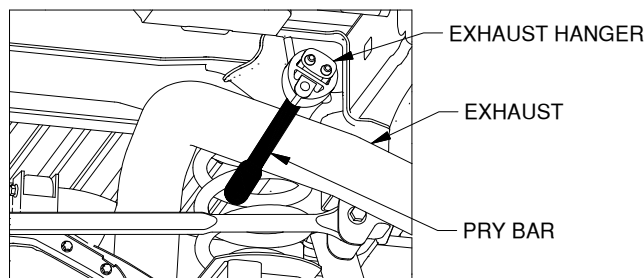

Figure A5: View looking under truck bed towards cab.
7. **Disconnect the exhaust hanger.** Locate the exhaust hanger in the rear passenger portion of the truck. Disconnect the exhaust from the hanger to provide improved mounting access to the center section. It is recommended that a pry bar be used to aid in disconnecting the exhaust hanger, as shown in Figure A5. Using soap and water to lubricate the pin and the rubber hanger may aid in disconnection.